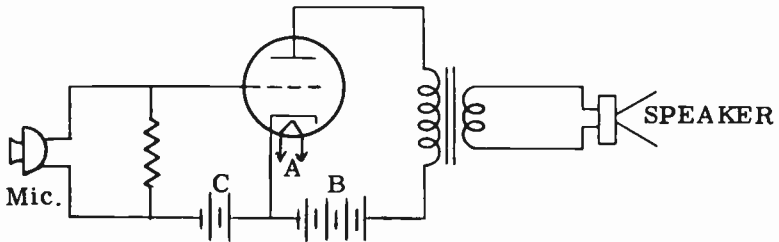

FIG. 9-1. SIMPLE ONE-STAGE AMPLIFIER CIRCUIT.
(2) The Audio Frequency (AF) Amplifier. This amplifier amplifies the sound frequencies or audio frequencies before they are applied to the speaker. This chapter will concern itself primarily with audio amplifiers.
**A BASIC AMPLIFIER.** Fig. 9-1 illustrates a simple amplifier circuit. The output of the microphone is a weak, audio signal. It is impressed on the grid of the tube and amplified. The output of the tube appears across the primary of the transformer. From here it is coupled to the secondary and then travels to the speaker.